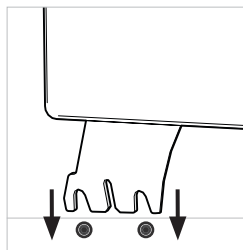

Fig. 3
- Fit the table saw guard assembly (Fig. 3)